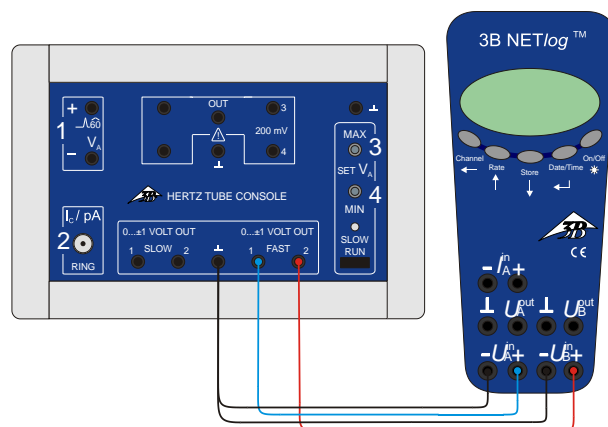

Fig. 2 Connection of 3B NETlog™ to the control unit for critical potential tubes
- Connect the output "Fast 1" from the control unit to input A of the 3B NET/log™ unit and the output "Fast 2" to input B. (See Fig. 2)